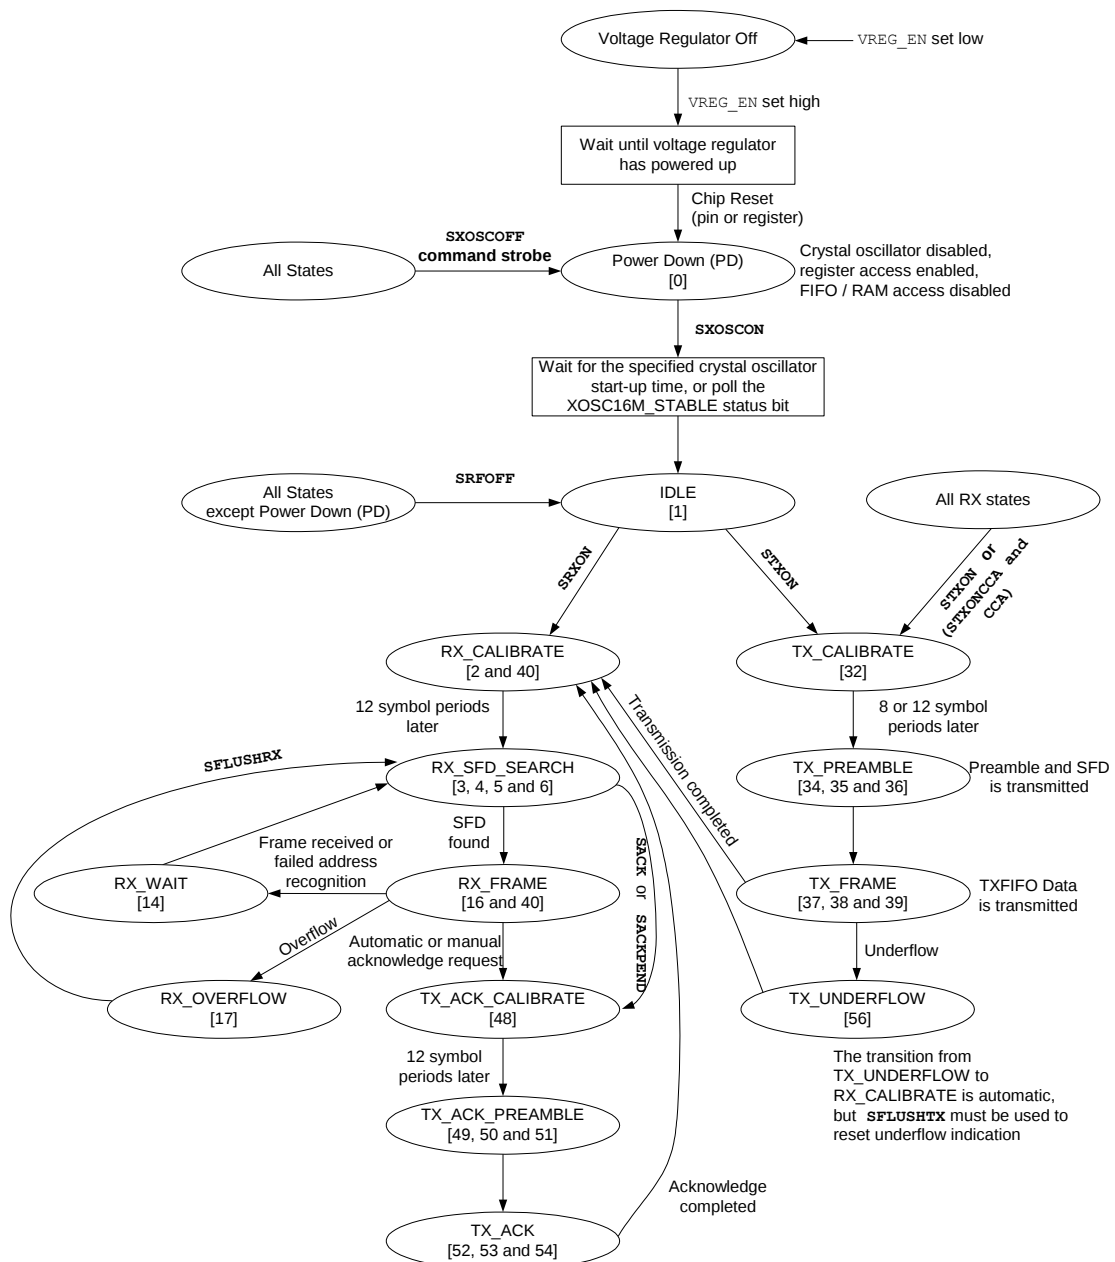

Figure 25. Radio control states
The radio control state machine states are shown in Figure 25. The numbers in brackets refer to the state number readable in the `FSMSTATE` status register. Reading the `FSMSTATE` status register is primarily for test / debug purposes.
For test purposes, the frequency synthesizer (FS) can also be manually calibrated and started by using the `STXCAL` command strobe register. This will not start a transmission before a `STXON` command strobe is issued. This is not shown in Figure 25.